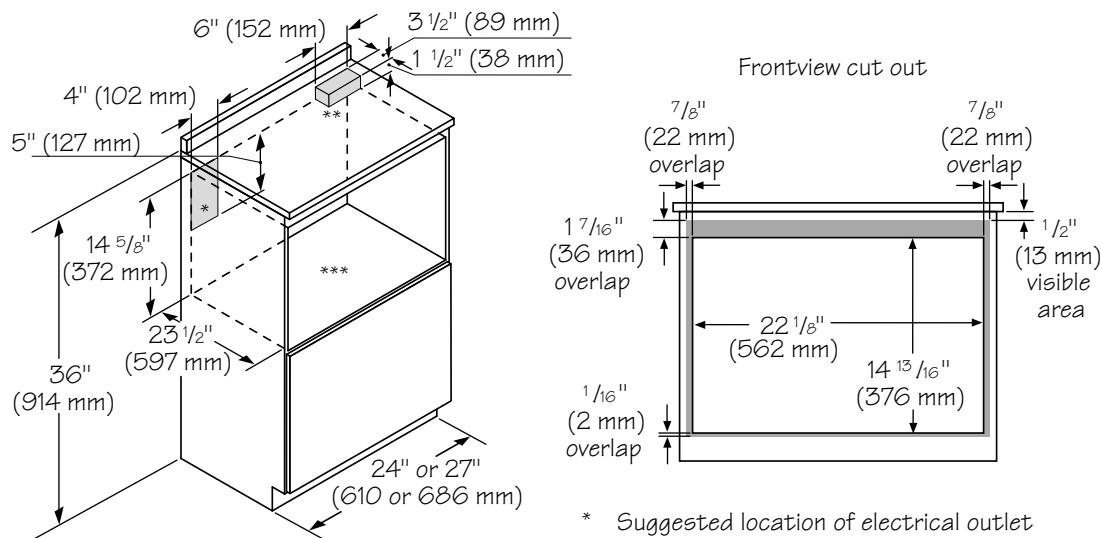
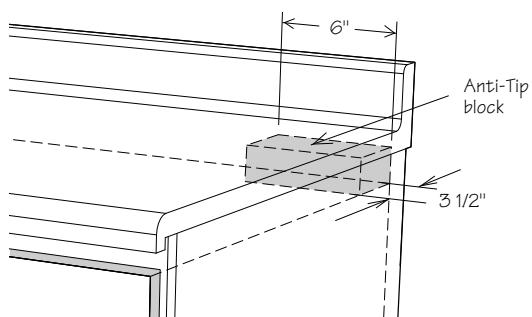

Figure 3
Figure 5
- For safety considerations do not install drawer in any combustible cabinetry which is not in accord with the stated clearances and dimensions in the "MicroDrawer™ Microwave Oven Measurements" section following. See Figure 3 (standard installation) or Figure 4 (flush installation).
- Dimensions that are shown in Figure 3 (standard installation) or Figure 4 (flush installation) must be used. Given dimensions provide minimum clearance. Locate electrical outlet in the shaded area in the upper left-hand corner of the cutout. See Figure 6.
The anti-tip block reduces the risk of drawer tipping when installed properly. Install the anti-tip block 14 13/16 inches above the installation opening floor (where the unit will sit) for a standard installation or 14 5/8 inches for a flush installation. The 6-inch Anti-Tip block must be provided by the installer. See Figure 3 (standard installation) or Figure 4 (flush installation) and Figure 5. The Anti-Tip block prevents serious injury that might result from spilled hot liquids.